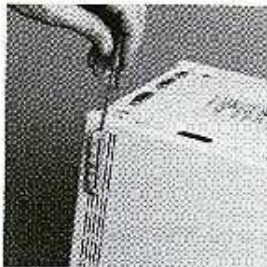

Figure 3-1
- a. Set the Macintosh on a flat surface with the screen facing down. If the Macintosh includes a programmer's switch, remove it by prying it from the case. See Figure 3-1.